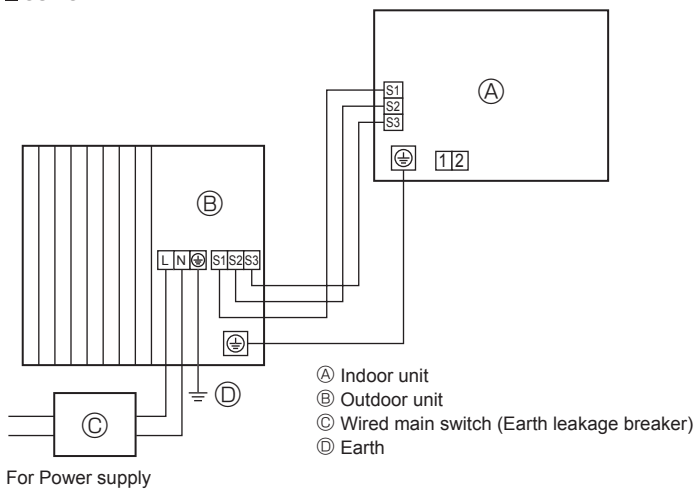
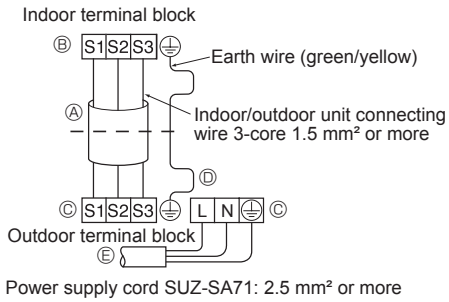
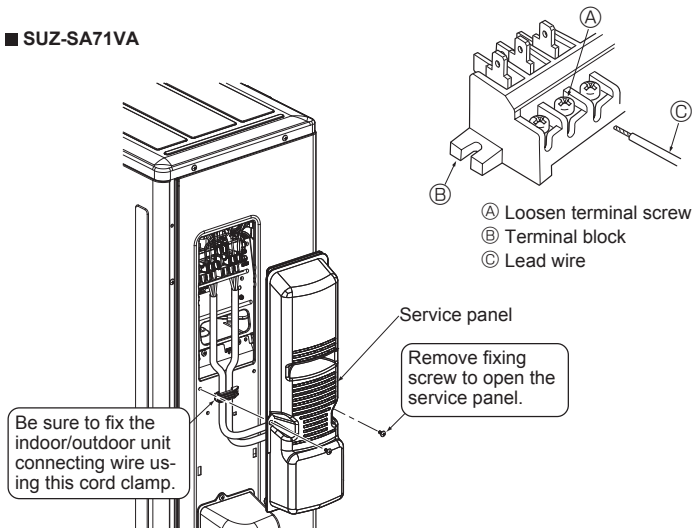

Fig. 5-1
Fig. 5-2
Fig. 5-3
5.1. Outdoor unit (Fig. 5-1, Fig. 5-2, Fig. 5-3, Fig. 5-4)
- ① Remove the service panel.
- ② Wire the cables referring to the Fig. 5-1, Fig. 5-2, Fig. 5-3 and the Fig. 5-4.
- Perform wiring as shown in the diagram to the lower left. (Procure the cable locally) (Fig. 5-2)
- (A) Connecting cable
- (B) Indoor terminal block
- (C) Outdoor terminal block
- (D) Always install an earth wire longer than other cables.
- (E) Power supply cord
- Use care not to make miswiring. (Fig. 5-3)